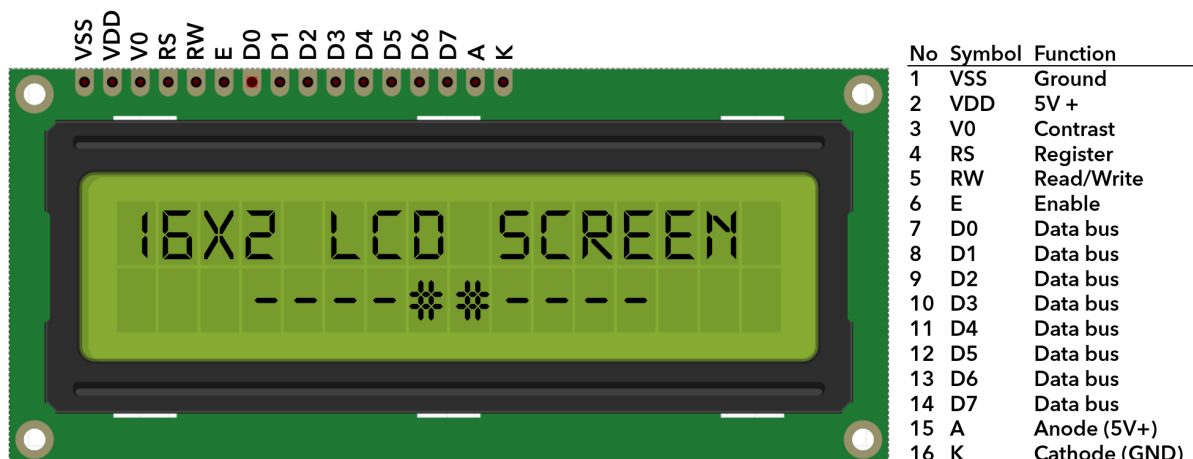

Figure 1: LCD pin labels, numbers and functionality [2]
*Used image of LCD display pinout in Figure 1*